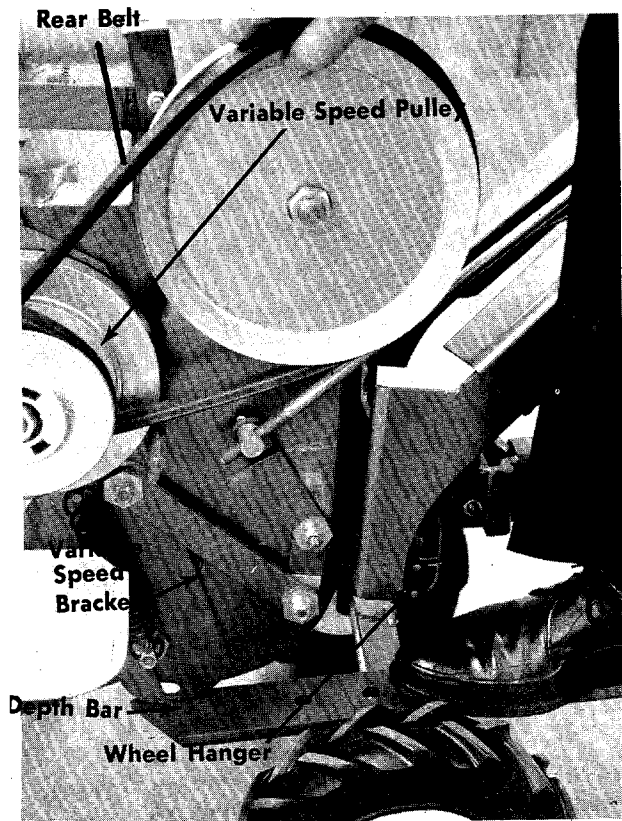

FIGURE 21. BELT REMOVAL
- Step 2. Put the depth bar on the wheel hanger and place the tip of the depth bar under the variable speed pulley bracket as shown in figure 21.